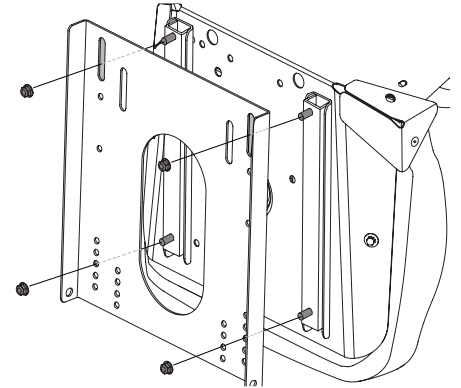

Figure 2-10
- Using the four provided bolts (a), install the seat onto the seat pan. Place the screws (b) on the front of the seat through the middle hole in the seat pan (c) as shown in Figure 2-10. Securely tighten the seat to the seat pan.